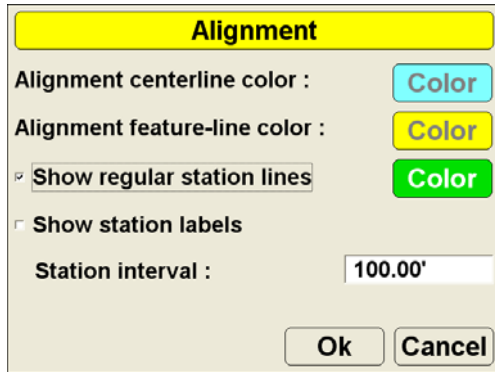

Figure 5-39. Polyline Alignment Options
5. Press **Topcon Logo** ▶ **View** ▶ **Display options** ▶ **Alignment** to change the interval between cross lines and the steering indication (Figure 5-39).